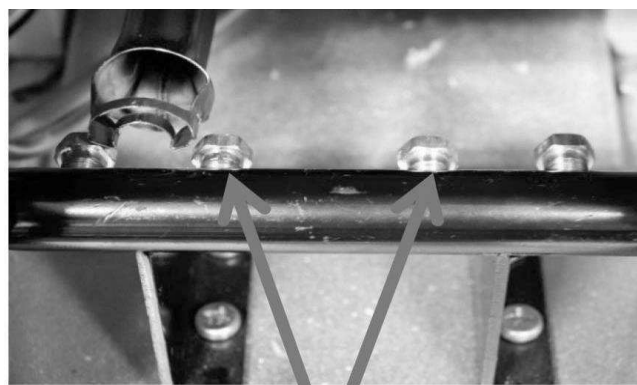

Figure 3: Orifice Location
3. Replace main burner orifices. See Figure 3.